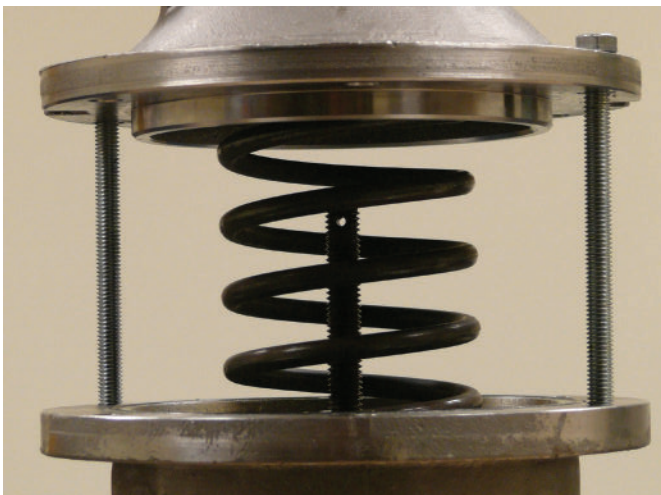

Figure 9-10 Remove Spring Compression
2. Loosen two bolts (Item 36) in even increments to remove all spring compression (Item 23). (Figure 9-10)